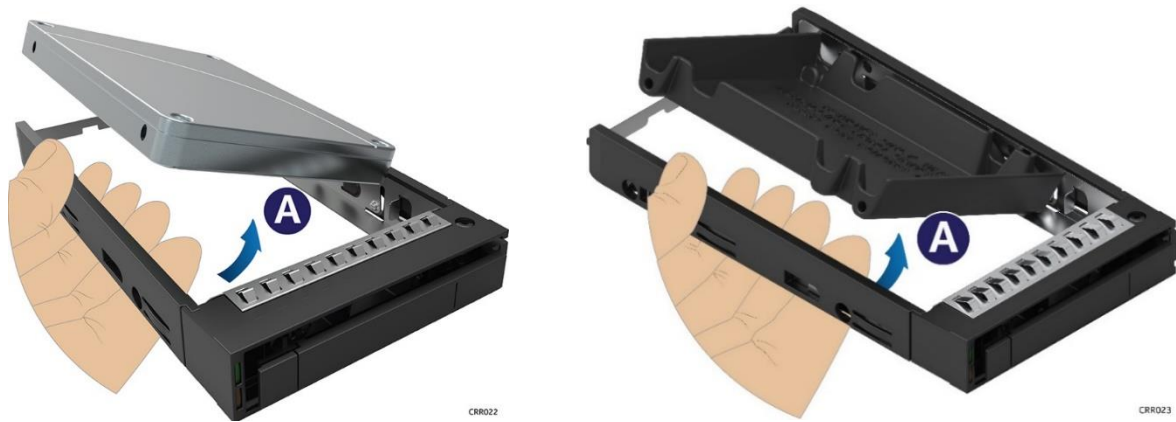

Figure 90. 2.5" Drive Carrier Assembly – Drive / Blank Removal
1. Remove the drive (or drive blank) from the carrier by gently rotating the top edge of a carrier rail outwards while simultaneously pushing the drive up from the bottom as shown in Figure 90.